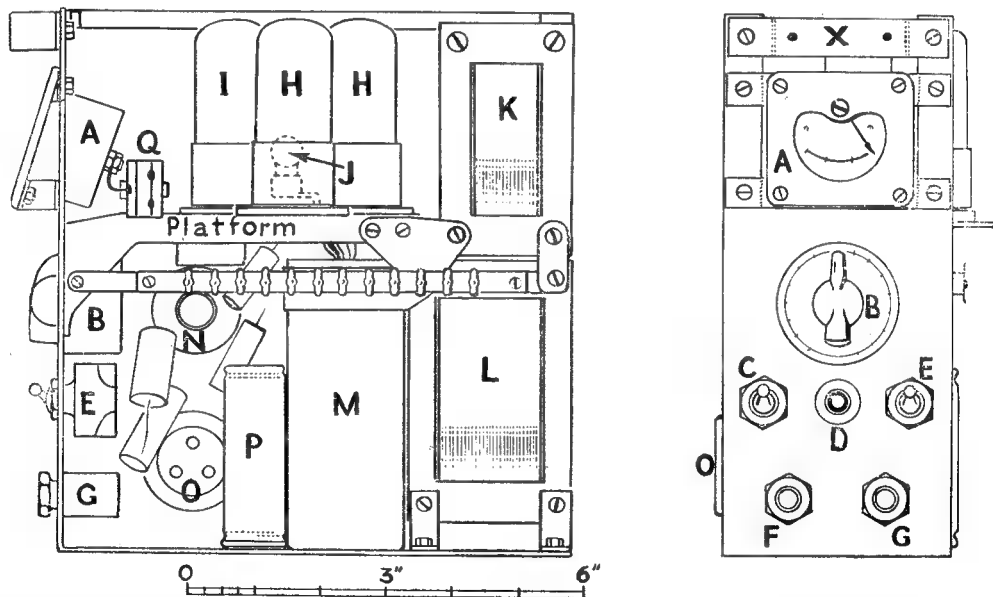

Fig. 19. Layout of the power pack, oscillator and output circuits. Bracket "X" is bolted to the front of the case
All the inter-chassis connections shown on the right are taken to a 12-way connecting strip and 1 in. lengths of wire were used to link up with the corresponding tagboard on the amplifier. Fig. 19 shows the physical layout of the parts, including (A) Level meter, (B) Bias control, (C) Amplifier switch, (D) Motors switch, (E) Erase switch, (F) Monitoring phone jack, (G) Extension speaker jack, (H) 6X5, (I) 6V6, (J) Pilot lamp (directly below scale on deck), (K) Choke, (L) Mains transformer, (M) Smoothing condenser, (N) Oscillator coil, (O) Mains input and (P) is "C" in Fig. 14, (Q) being the meter rectifier.